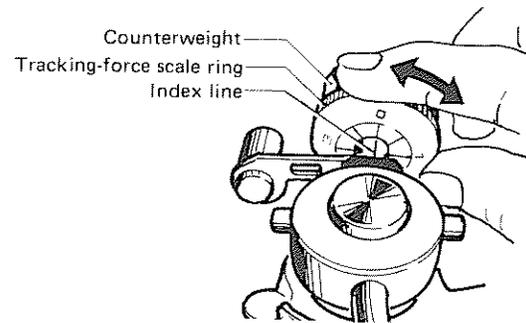

Fig. 7
8. Since the tracking force is zero when the tonearm is balanced level, turn just the tracking-force scale ring in front of the counterweight, and set the "0" on the scale to the index line on the shaft (Fig. 7).